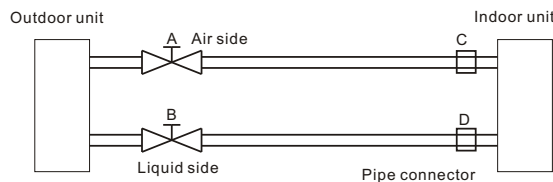

Fig 20
- If the connection pipe is no more than 5 meters, use refrigerant in outdoor unit to exhaust the air(50-100 g refrigerant is charged for emptying the pipe before the outdoor unit is delivered, refer to Fig 20).
- ① Screw down the nuts at A, B, C, D joint completely.
- ② Turn on the nut of the Valve B with the hexagon wrench and then turn the valve core 45° anti-clockwisely for 10 seconds with the inner-hexagon wrench, then tighten the union A.
- ③ Have the leak test at A, B, C, D joint and then press the core of Valve A to exhaust the air for 20 seconds and then screw down the service valve.
- ④ Open Check valve B and A completely with the inner-hexagon wrench, then tighten nuts of them.